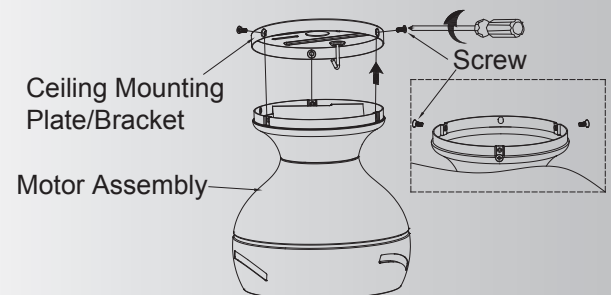

Fig. 10
Step 1. Remove the 3 small screws from the motor assembly for later use. Lift up the motor housing on to the Ceiling Mounting Plate/Bracket, align the 3 holes from both parts. Secure the motor housing to the motor bracket by using the 3 small screws removed previously. (Fig. 10)